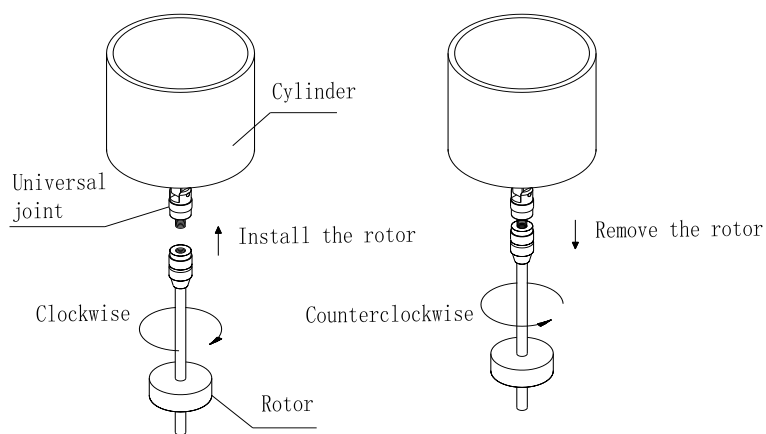

Fig. 10
(1) There are totally 7 keys and 1 LED indicator on the operating area at the front panel of the main machine (Front of the main machine in Fig. 10).
5. Because the rotor and the universal joint are connected in left thread, rotor attaching or detaching must be performed in the correct the rotating direction (Fig. 10), or the universal joint will be damaged.